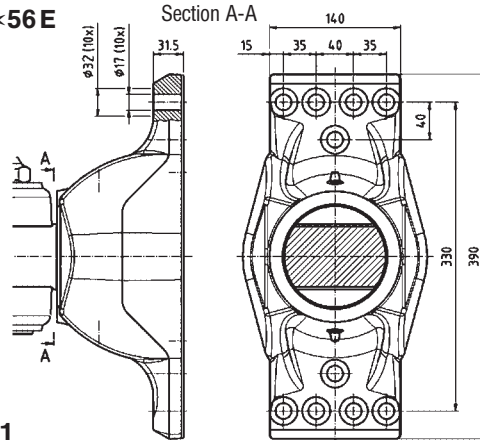

Fig. 1
- For RO★56E a heavy duty cross member with a hole pattern (see Fig. 1) with 10x $\phi$ 17 borings is required.